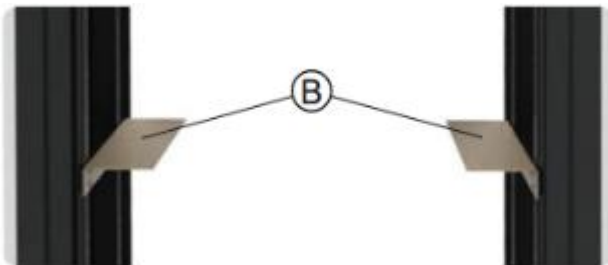

Figure 3. Attached Sliding Rails
1. Attach the sliding rails **B** to the rack (Figure 3)